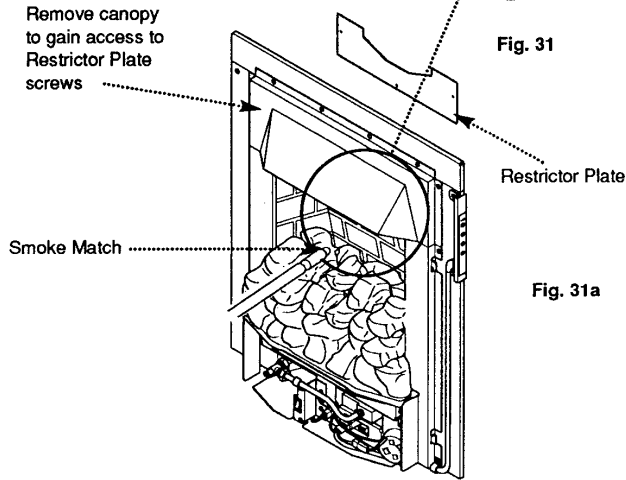

Fig. 31a
6. If spillage continues to occur and the flue restrictor is still fitted, remove restrictor (Fig 31a). Remove the fire canopy to gain access to restrictor plate screws. Remove the restrictor and replace the canopy taking care not to damage any painted surfaces.